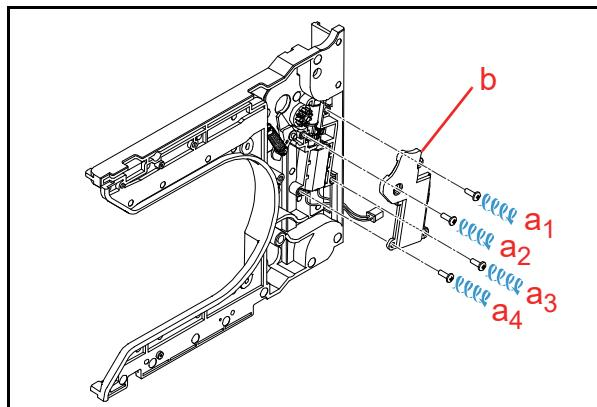

**Figure 4-61** Rear Transport Unit Removal
2. Remove the two (2) Screws (Figure 4-61 **a1** & **a2**), and remove the Rear Transport Unit (Figure 4-61 **b**).